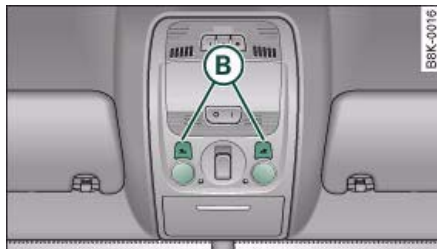

Fig. 59 Headliner:
- Press one of the switches (B) ⇒ fig. 59 to switch the left or right reading light on and off.